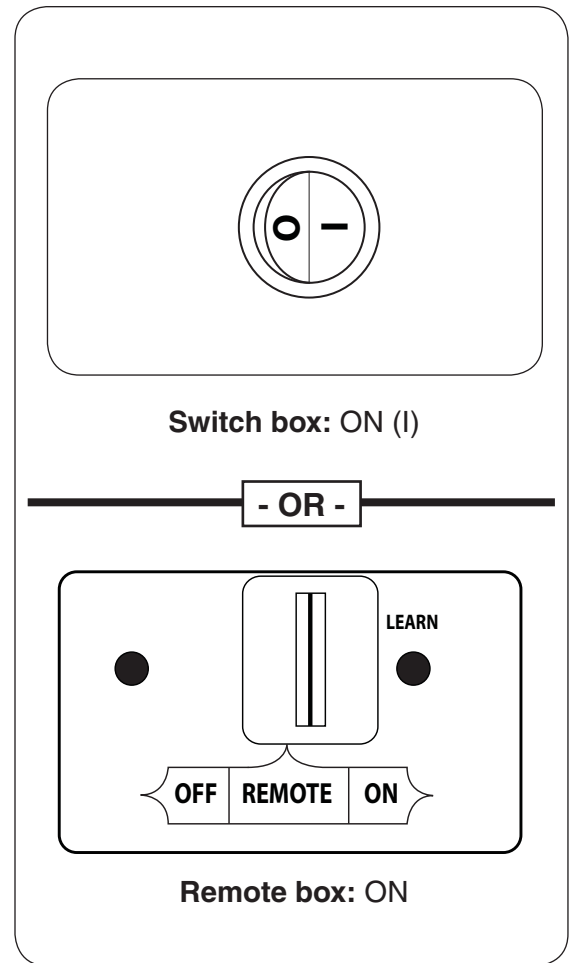

Fig. 29-1 Manual lighting
1. **Switch Box Models:** Locate the ON/OFF switch at the front of the switch box. Press the switch to the **ON (I)** position. See Fig. 29-1.
Remote Box Models: Locate the 3-position switch on the remote receiver (see Fig. 29-1), and slide the switch to the **ON** position.